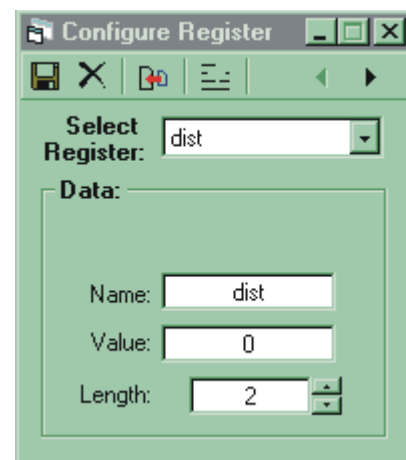

Figure 4.14: Screen 2 Distance Register Setup
- 2] In the Configure Register dialog (figure 4.14), type “dist” in the “Name” box.